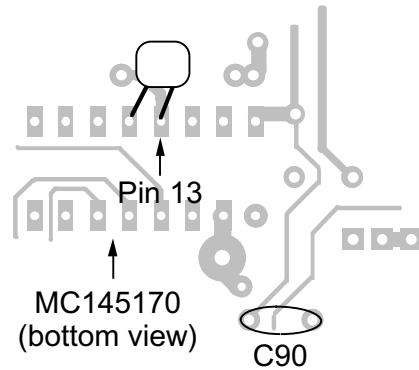

Figure 1
- Solder a 68-pF capacitor (RF-CPLL) on the bottom of the RF board, between pins 13 and 12 of the MC145170, U4 (see Figure 1). Keep the lead length short.